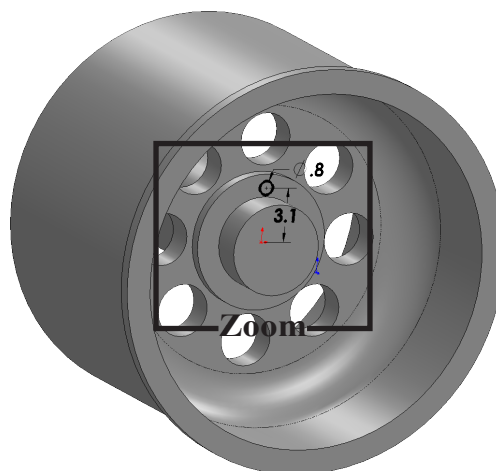

Fig. 26
Step 9. Rotate view slightly to view **inside rim**, hold down middle mouse button (wheel) and drag to rotate view and zoom in on Wheel cap face, **Fig. 26**.